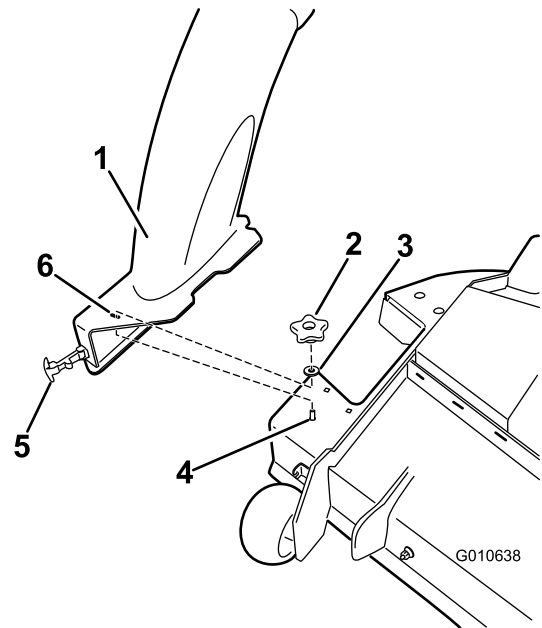

Figure 9
4. Install the chute to the deck making sure the opening in top of the chute aligns with the exposed post on the deck top (Figure 9).